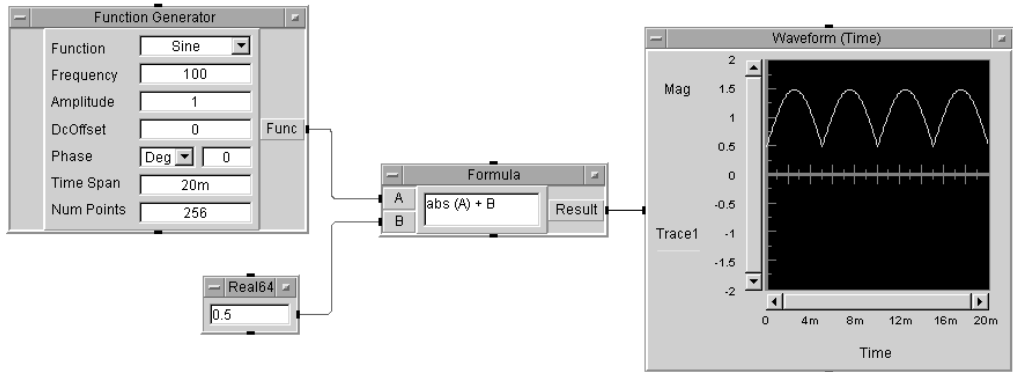

Figure 56 Creating a Formula Object Program
- 6 Connect the objects as shown in Figure 56. Run the program.